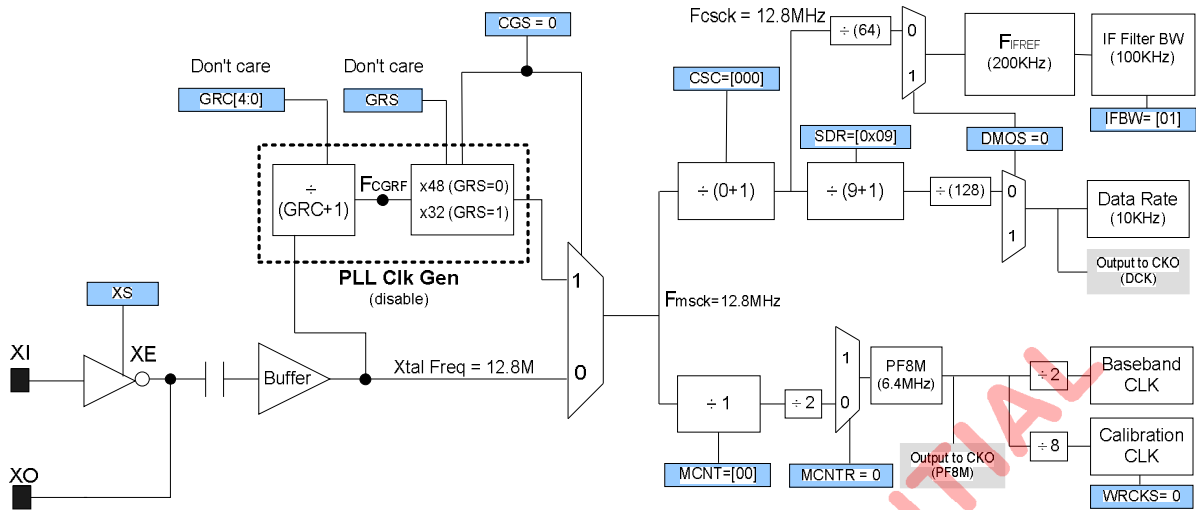

Figure 12.3 Configurations of 10Kbps when IFBW = 100KHz
5. If choosing IFBW = 100KHz, figure 12.3 illustrates the different results of CSC and F_{Csck}.